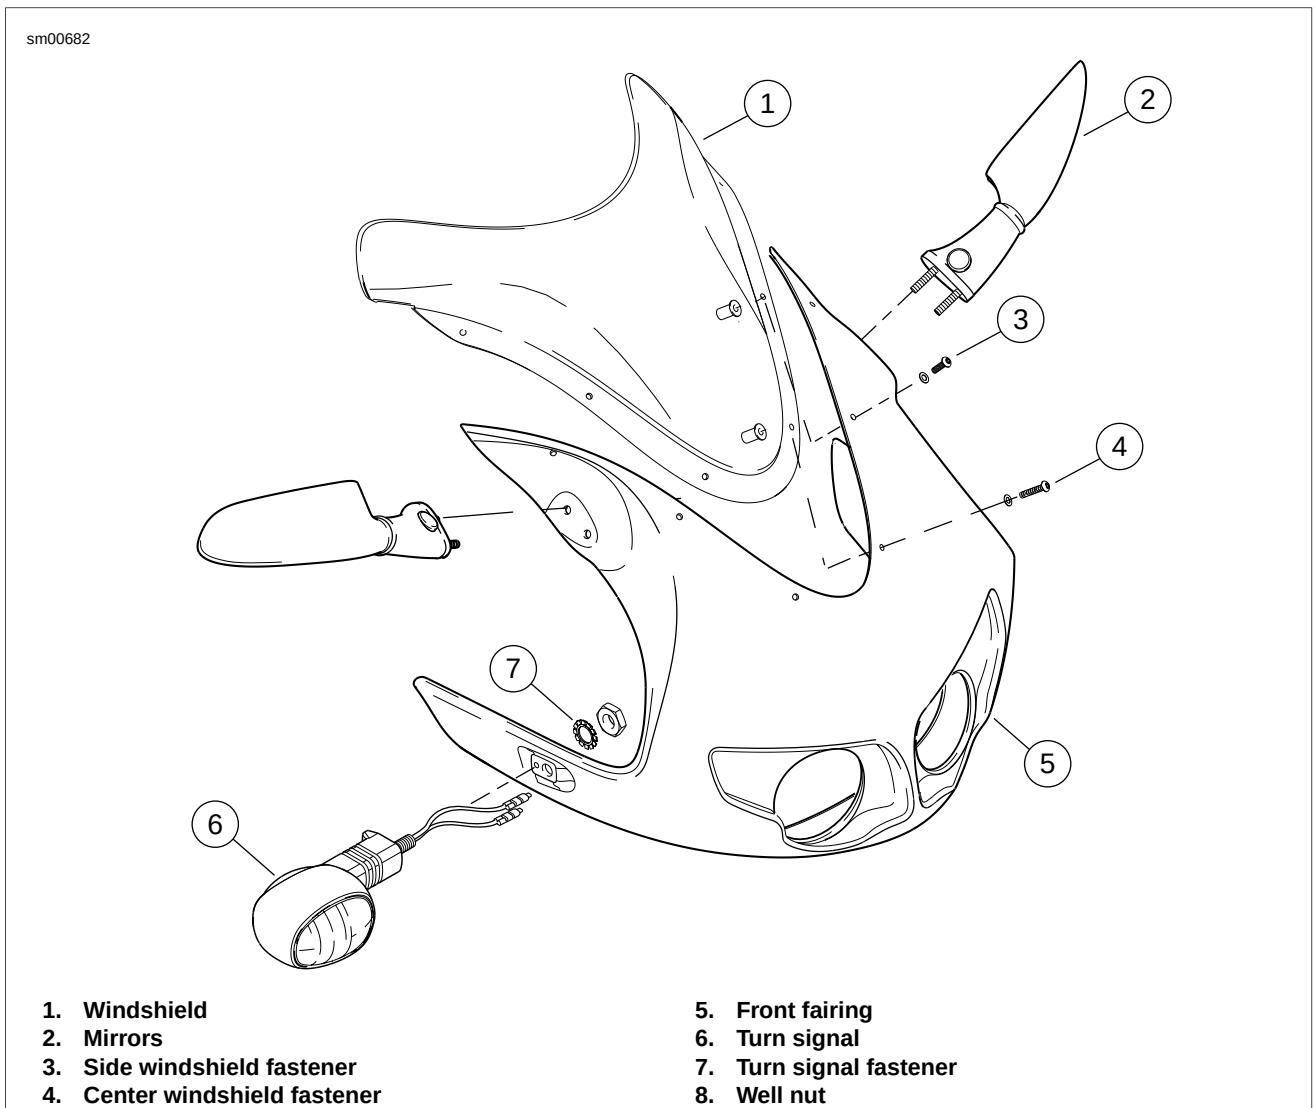

Figure 2-181. Front Fairing and Windscreen: Firebolt
1. See Figure 2-181. Remove two center (4) and four side windscreen fasteners (3) to remove windshield (1).
2. Remove mirrors (2).
3. Remove turn signals (6). See 7.12 FRONT TURN SIGNALS and remove front fairing (5).
1. See Figure 2-181. Position fairing (5) onto fairing support bracket and install turn signals (6, 7). See 7.12 FRONT TURN SIGNALS.
2. Install mirrors (2) with fasteners and tighten to 72-96 **in-lbs** (8-11 Nm).
3. Install two center (4) and four side windscreen fasteners (3) and tighten to 10-12 **in-lbs** (1-1.4 Nm).